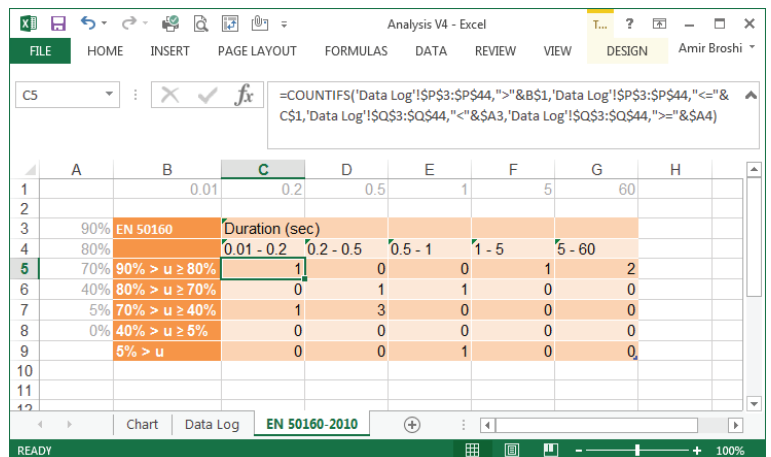
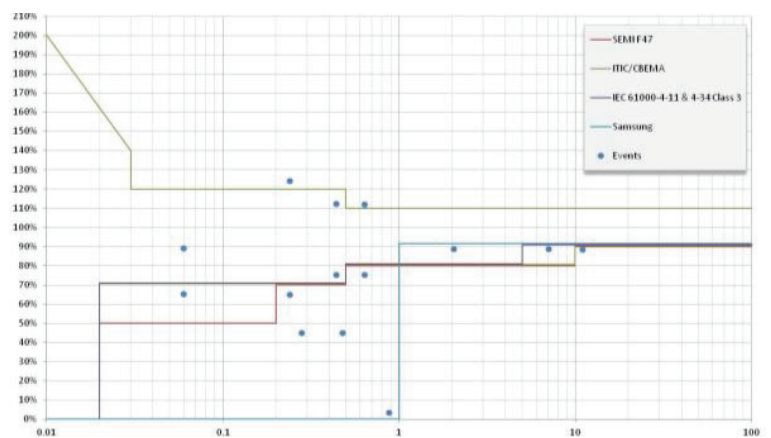

Figure 4 : Sag/Interruption EN50160 Classification
Figure 5 : Sag/Swell/Interruption Chart
9. The results were classified according to EN50160 cells (Figure 4) and plotted using Excel standard XY scatter chart, together with the various sag/swell standards – CBEMA/ITIC, SEMI F47, IEC 61000-4-11, IEC 61000-4-34 and Samsung Power Vaccine (Figure 5).